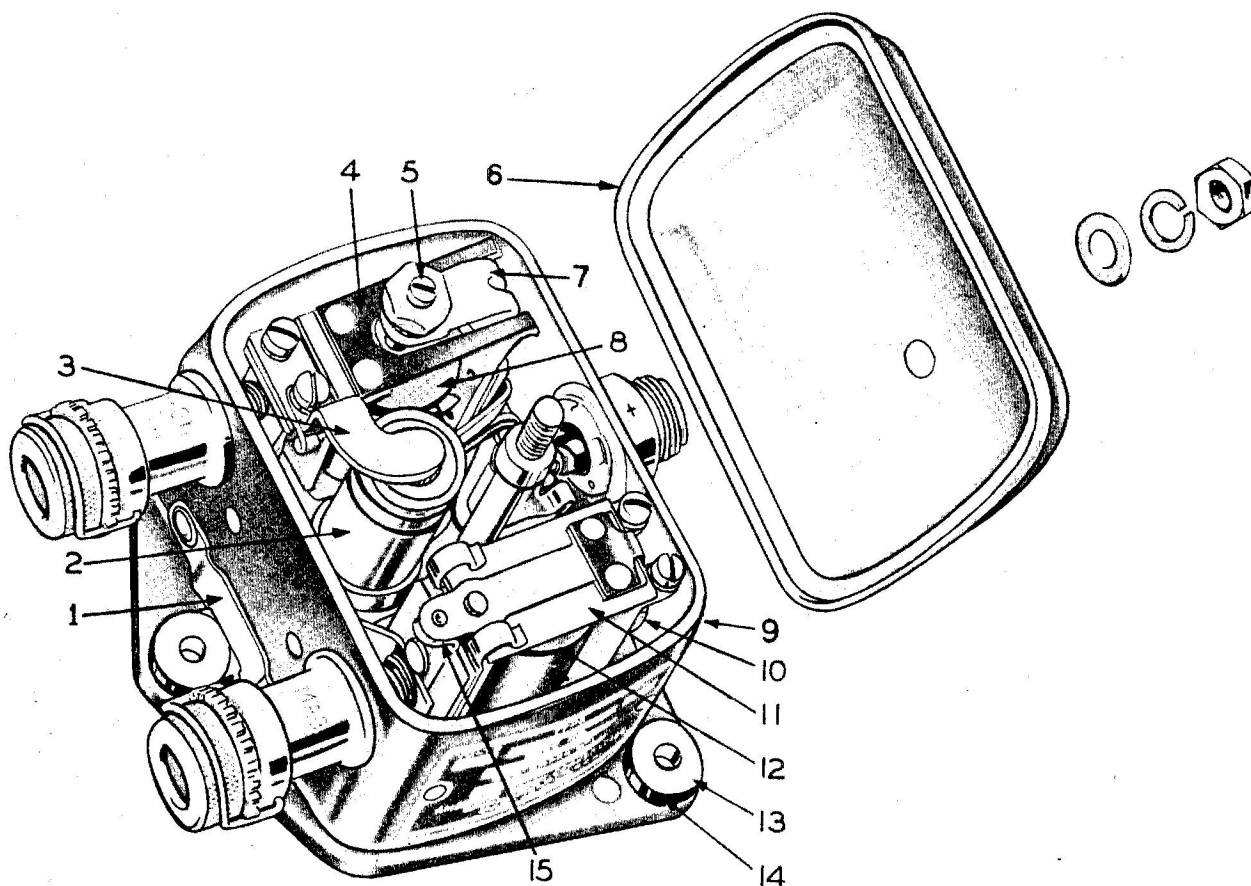

Figure 2 — Starting Vibrator With Top Cover Removed
2. DETAILED. (See figure 2.)
KEY TO FIGURE 2
2. SERVICE INSPECTION. (See figure 2.)